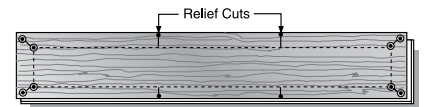

Fig. 8
2. Mark damaged board 1-1/2" (3.81 cm) from ends and sides. Drill 3/16" (4.76 mm) holes in corners and at relief cuts (Fig. 8).